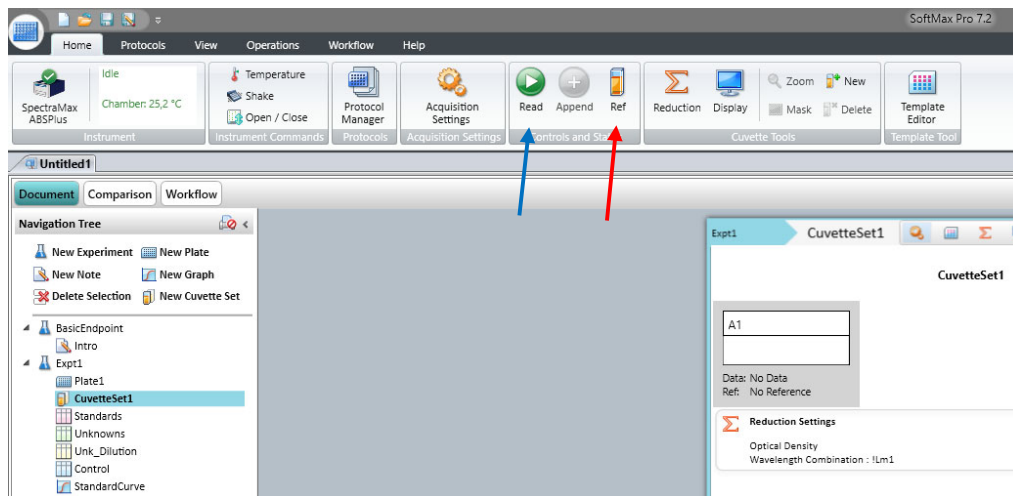

Figure 6: Reference measurement
- press "Ref" in the top menu to set the blank (red arrow in figure 6)
- as an option press "Read" to measure the blank (blue arrow in figure 6)